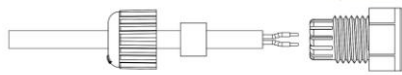

Figure 7: Insert components into the cable
Step 1. Insert the screw nut, O-ring, and housing into the cable in the order shown in Figure 7 and keep them loose in this step.